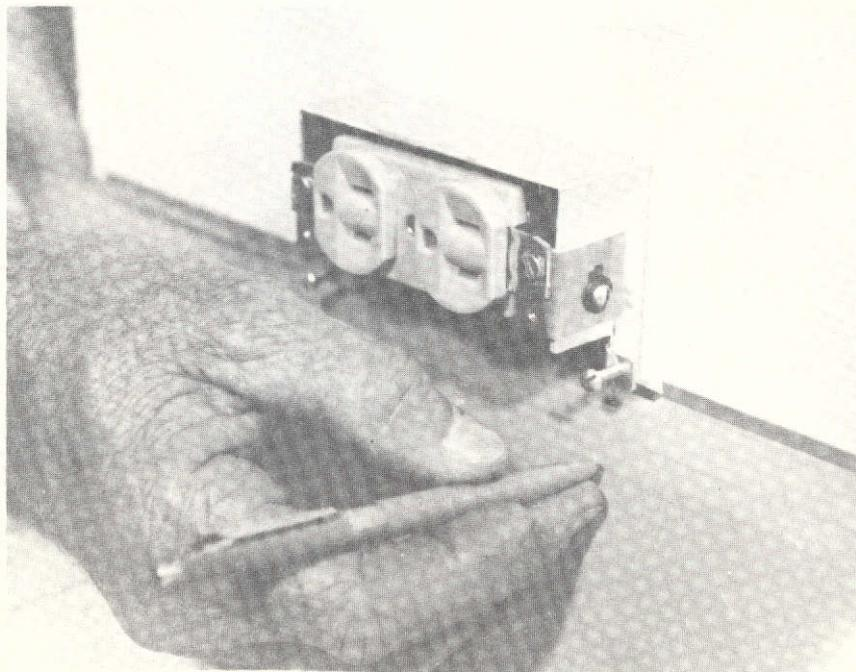

Figure 19. Marking Baseboard Front Cover to Length at Receptacle Box
1. Ascertain proper baseboard cover lengths. Butt one end of the cover against the wall at the inside corner or at the edge of the receptacle box and mark at the other end which will be at a receptacle box (see Figure 19), baseboard splice, or outside corner.